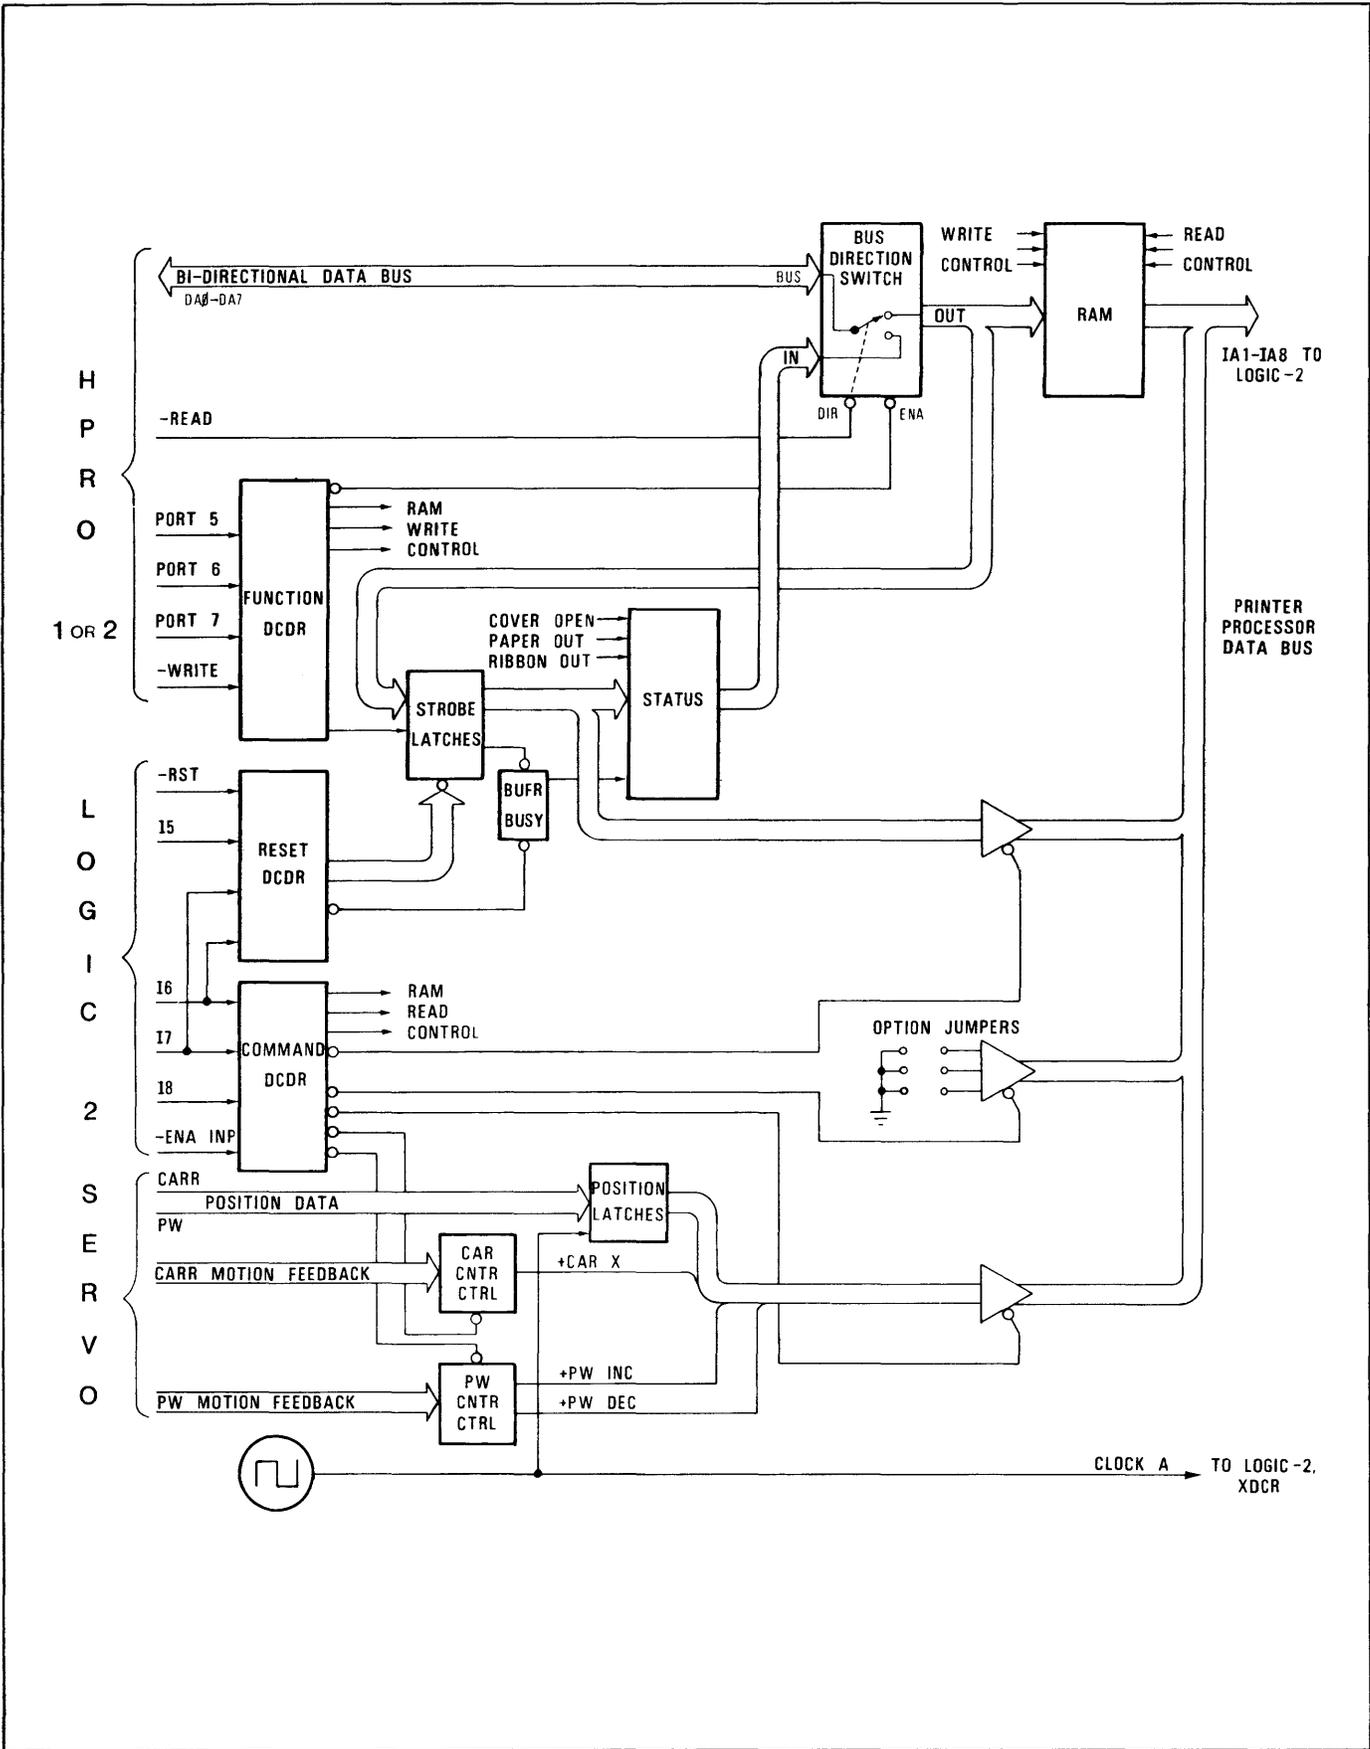

Figure 2-8. Block Diagram, 8080 INTERFACE Board
The transfer of a printer command from the terminal microprocessor to the printer microprocessor involves the following steps (refer to Figure 2-8):
**2.3.1.1.1 WRITE to Ports 6 and 7.** When a write command is executed to either port 6 or 7, the data appears on the bi-directional data bus simultaneously with the development of the  $\text{--WRITE}$  signal and  $\text{--PORT 6}$  or  $\text{--PORT 7}$ . The FUNCTION DCDR block in Figure 2-8 contains random logic which both enables (turns on) the BUS DIRECTION SWITCH, and addresses the RAM according to the I/O port selected. Since  $\text{--READ}$  is high at this time, the BUS DIRECTION switch allows data to flow from its "bus" connection to its output, from where it is written into the RAM.